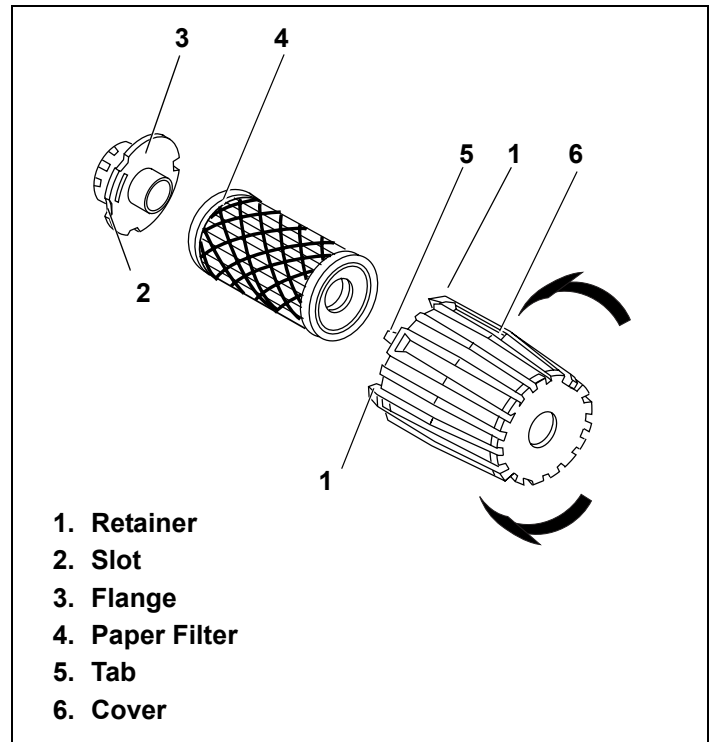

Figure 50. Air Cleaner Type "C" Assembly
1. Turn cover to left (counterclockwise) to remove. See Figure 50.